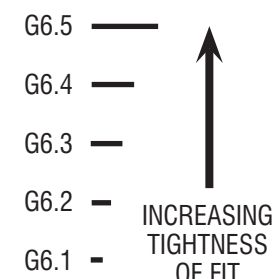

Fig. I21
- * **IF TOO LOOSE:** Try another template guide that is higher up the chart (Fig. I21). For example, if you used G6.2, you would want to use G6.3, G6.4 or G6.5.
- * **IF TOO TIGHT:** Try another template guide that is lower down the chart (Fig. I21). For example, if you used G6.3, you would want to use G6.2 or G6.1.